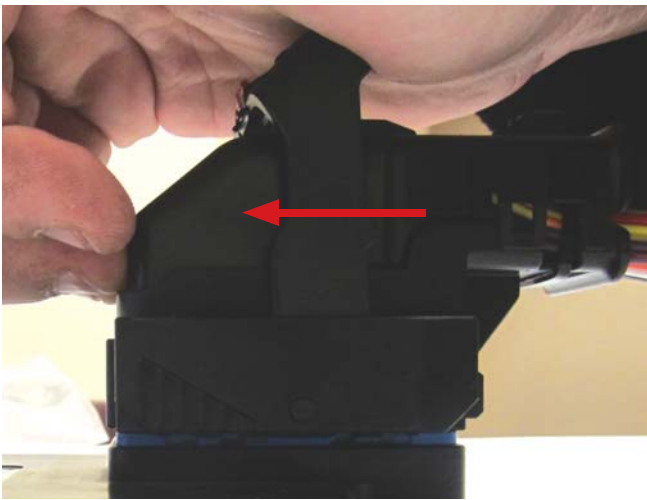

Figure 2
2. Push the top of the lever arm away from the wire bundle using the palm of your hand until the connector lifts into pre-lock position. **Reference Figure 2.**